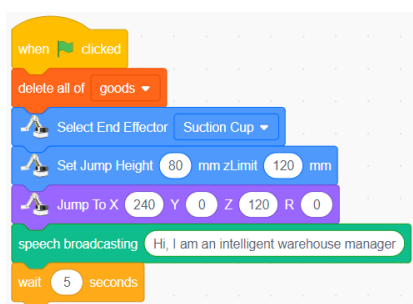

Figure 1.8 Speech prompt
3): Voice prompt. The robot first introduces itself, and then voice prompts, as shown in Figure 1.8